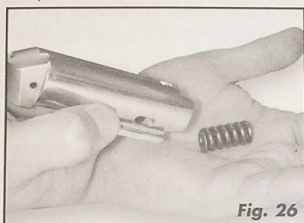

Fig. 26
12. Remove the inertia spring from its seat in the bolt, dropping it into the palm of your hand (Fig. 26).